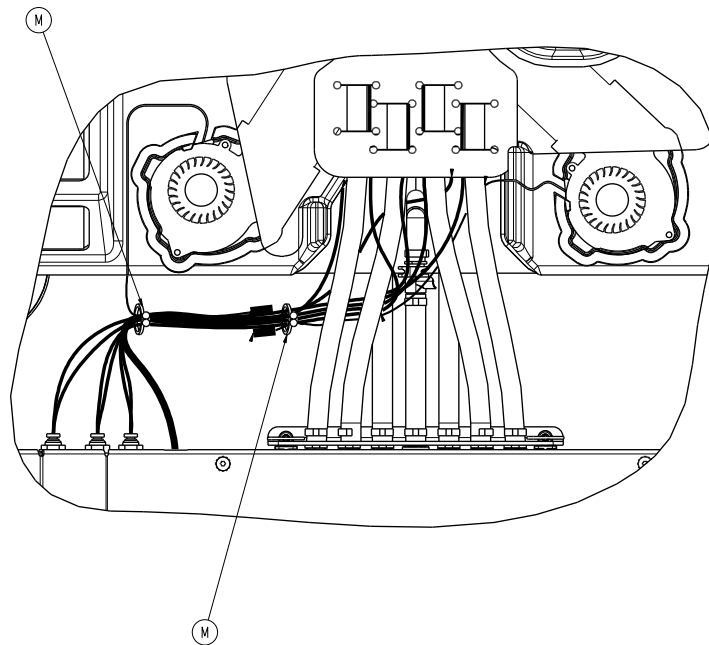

Figure 20 – Purse lock wire tie
12. Remove the two purse lock wire tie (M) (Figure 20). Save the purse lock wire ties.